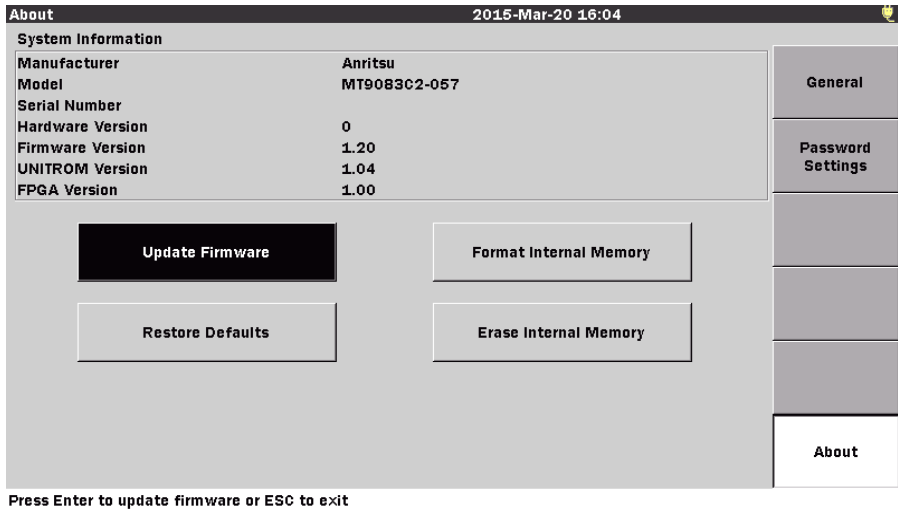

Figure 3-13: About Screen
2. Press **About (f6)**, the About screen appears (see Figure 3-13 on page 3-27).